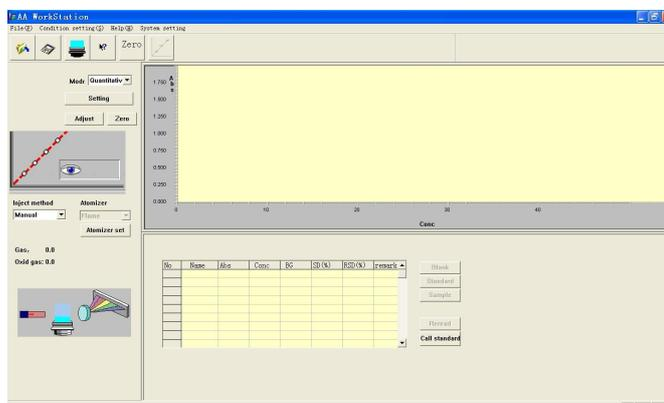
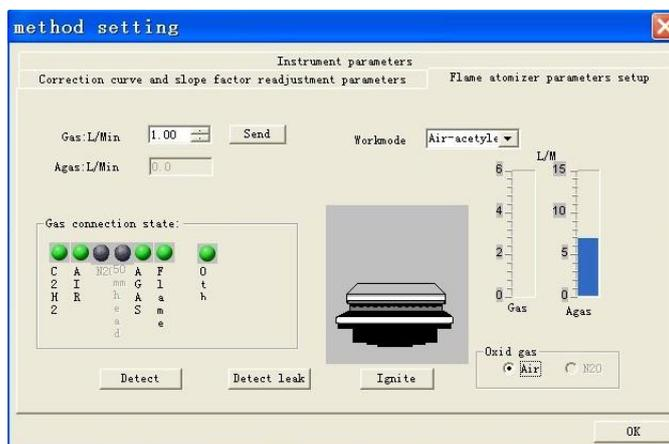

Figure 4-50a
Figure 4-50b
2. As shown in Figure 4-50a, press the "Atomizer settings" to enter the "Flame atomizer parameters" screen. See Figure 4-50b.